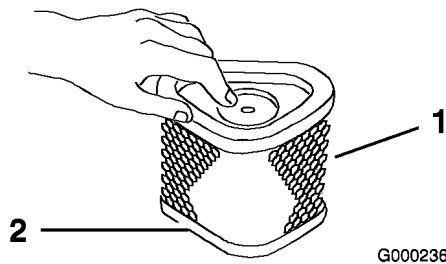

Figure 19
3. Put one or two ounces of oil on the element (Figure 19). Squeeze the element to distribute the oil.
2. Replace the paper element if it is damaged or excessively dirty (Figure 19).